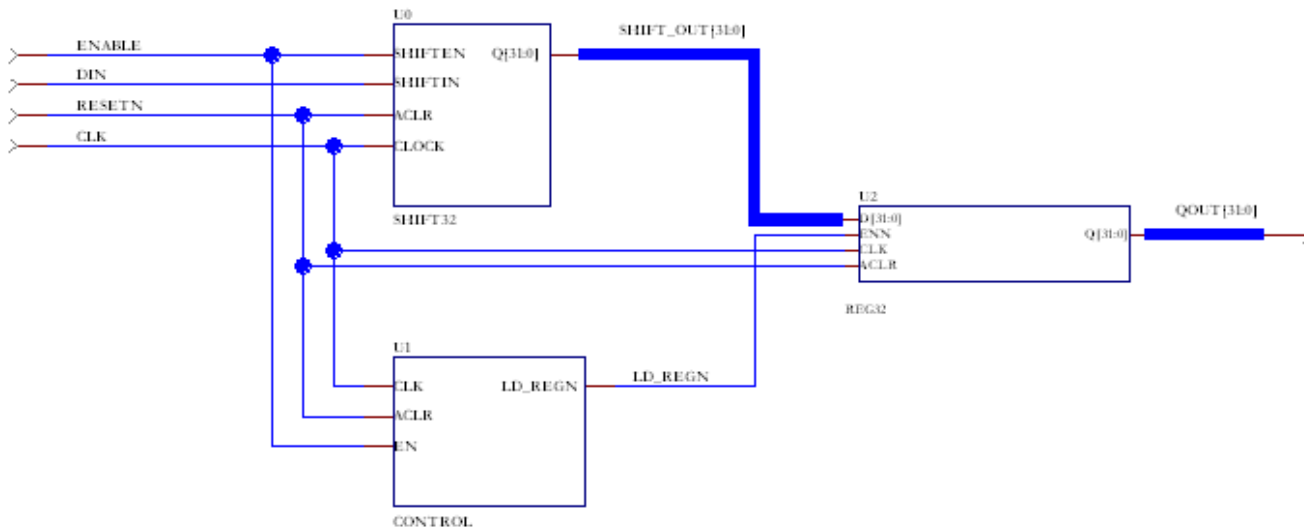

Figure 20 - completed top level schematic
The final step is to tie all the blocks (control, shift32 and reg32) together with a top level schematic. Before creating the schematic, you need to create a block symbol for the 32 bit register (reg32). The completed top level schematic is shown below (Figure 20).
- Follow the instructions in Step 5 to complete the top level schematic. When finished your schematic should look like Figure 20.